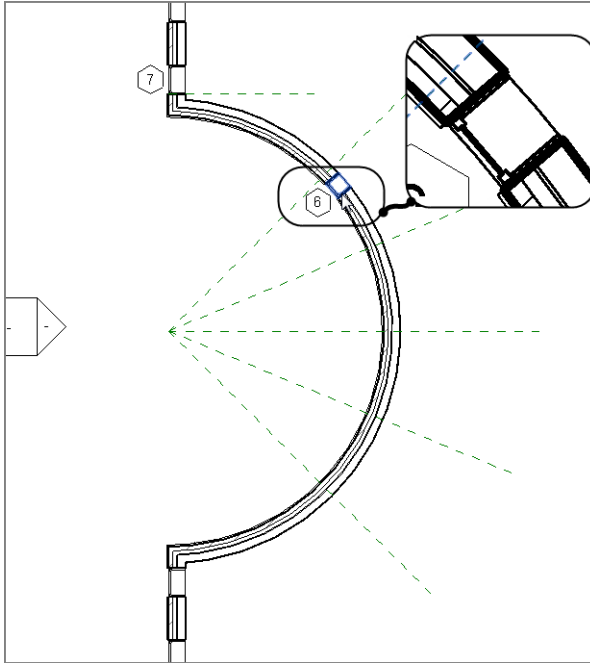

FIGURE 4.28: Place the window approximately in the area shown here.
1. Zoom in on the radial portion of the west wall, as shown in Figure 4.28.
4. Place the window in the radial wall in a location similar to that shown in Figure 4.28. Don't attempt to eyeball the center of the window with the reference plane. As a matter of fact, purposely misalign the window.